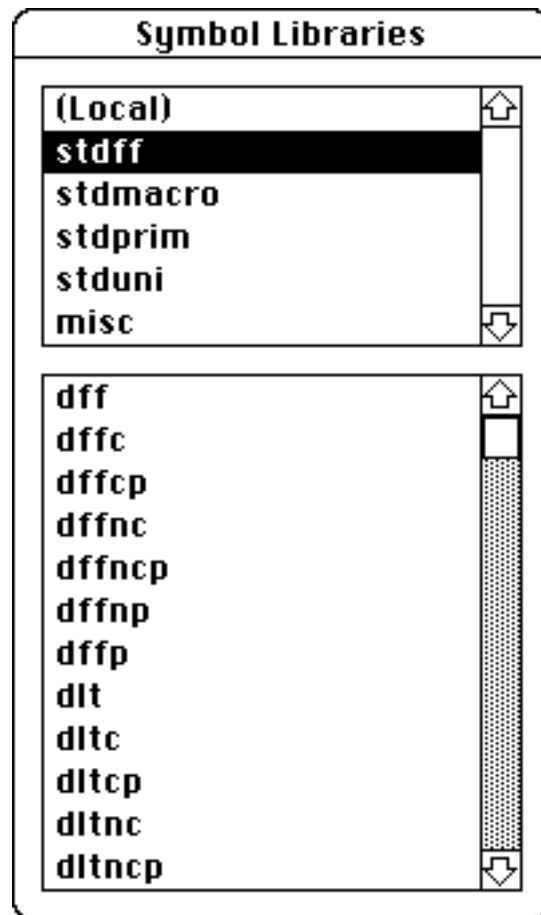

Figure 5-7 Symbol Library Selection Dialog Box
- Use the symbol dialog box as shown in Figure 5-7 to select a symbol from a library. The upper list box contains a list of the library directories in the order in which they are searched for the requested symbol. One of these lines is highlighted, indicating the currently selected directory.